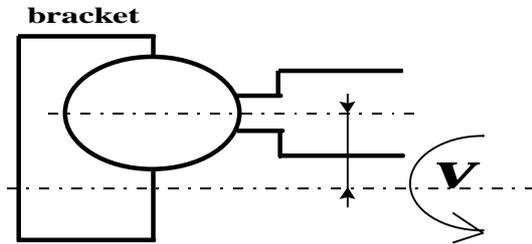

Figure 5 :
It is mandatory that the articulation housing and ball be concentric, otherwise there will be mounting problems (**figure 5**).
- Articulation type universal joint (**figure 5**):